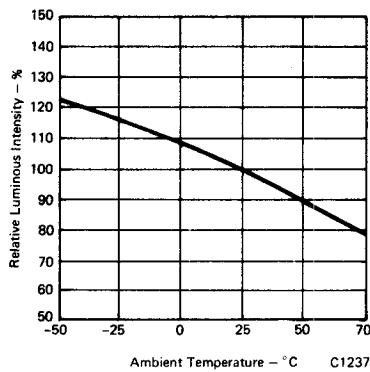

Fig. 3. Relative Luminous Intensity vs. Ambient Temperature
2. The curve in Figure 3 is normalized to the brightness of  $25^{\circ}\text{C}$  to indicate the relative luminous intensity over the operating temperature range.